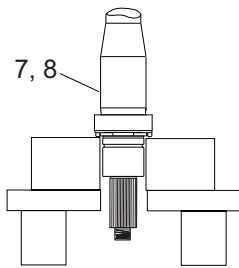

Figure 200 - Grease Shaft
1. Lubricate the front bearing area of the shaft (Figure 200, item 7, 8) with anti-seize. Place it upright in a hydraulic press with the liquid end down.